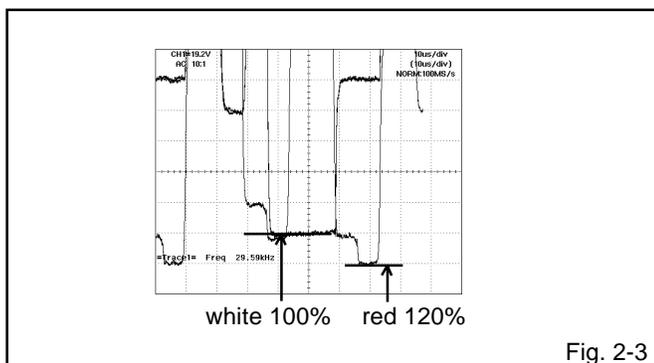

Fig. 2-3
7. Press the VOL. UP/DOWN button on the remote control until the red color level is adjusted to $120 \pm 10\%$ of the white level. (**Refer to Fig. 2-3**)